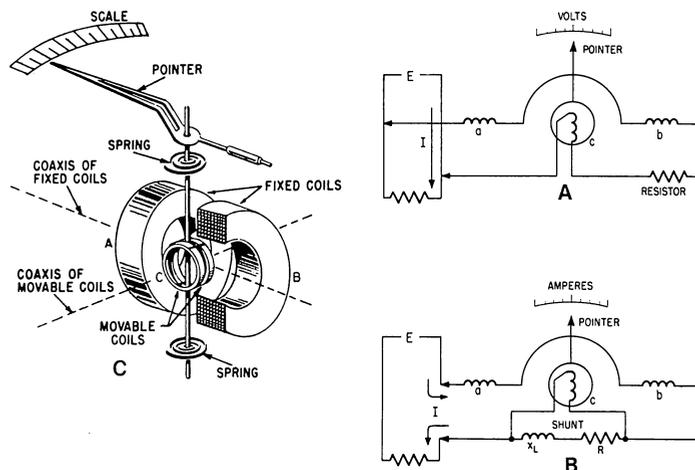

Fig. I-29 Electro-dynamometer: (A) Circuit when used as a voltmeter; (B) circuit when used as ammeter; (C) internal construction.
- **Electrodynamometer.** The electro-dynamometer type of meter uses no permanent magnet. Two fixed coils produce the magnetic field. The meter also uses two moving coils. This meter can be used as a voltmeter or an ammeter (Fig. I-29). It is not as sensitive as the D'Arsonval meter movement.